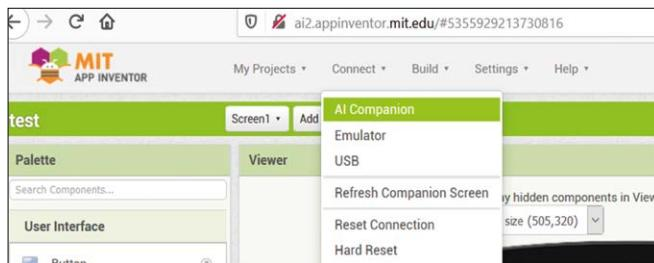

Figure 23.4: Click Connect and then AI Companion.
- After the project is complete, click **Connect** and then **AI Companion** as shown in Figure 23.4, or choose **Build** and then **App (provide QR code for .apk)** to install the project permanently on your Android device.